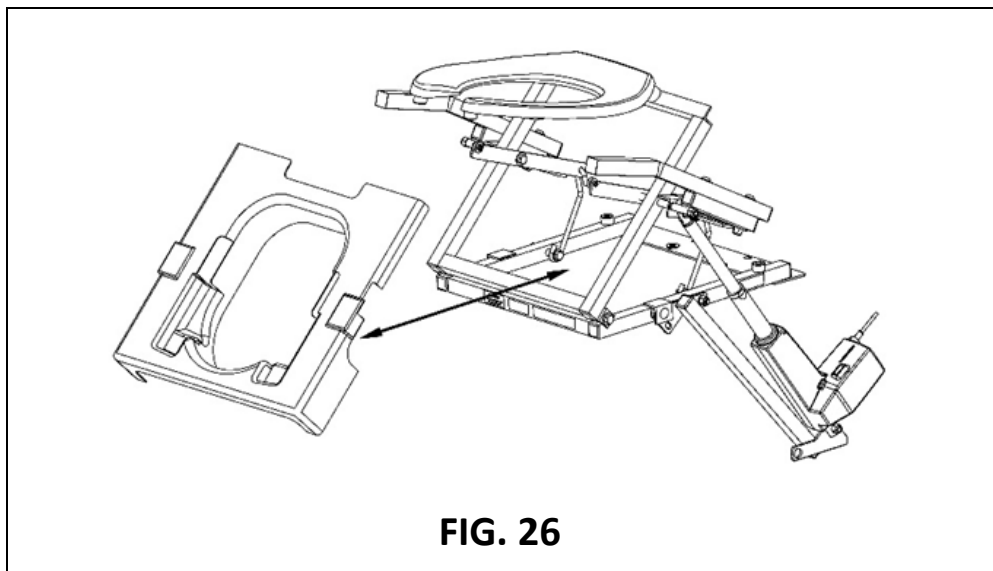

FIG. 26
- 11.3.2 Remove the plastic shield (FIG. 26) by grabbing it from the front and lifting upward, then pulling forward until the shield slides out of the TILT.
- 11.4.2 Insert the plastic shield (FIG. 26) by aligning cutouts over the support rollers.